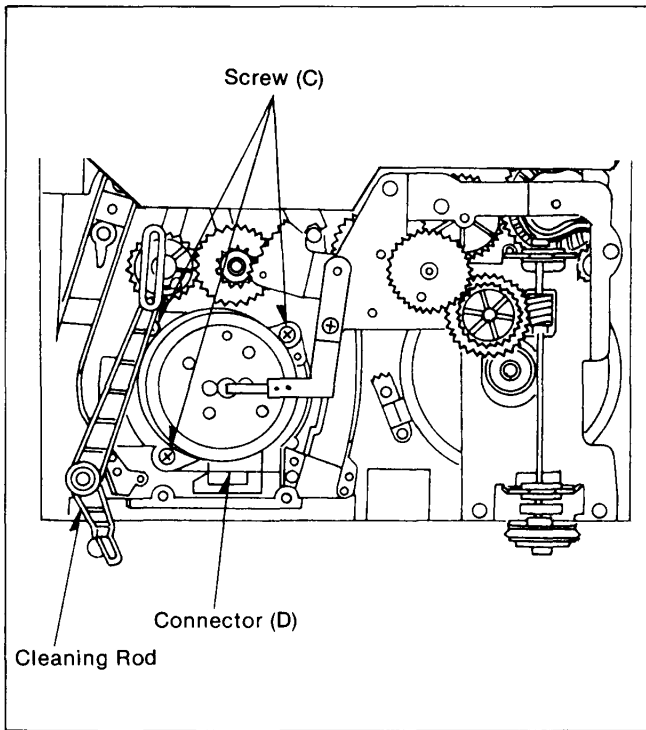

Figure M9
3. Disconnect a connector (D).
4. Unscrew 3 screws (C). Since there is very little clearance between DD Cylinder (Lower Cylinder) Unit and Chassis, remove the Cylinder gently and carefully. (Figure M9).